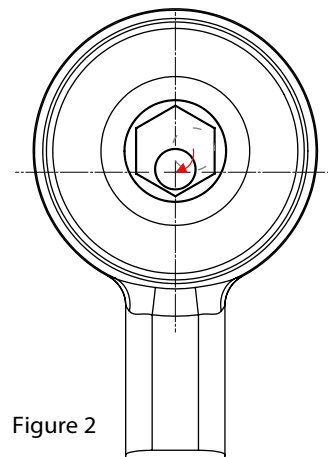

Figure 2
7. For maximum caster adjustment, use a 26 mm spanner to rotate the sleeve until the bore is positioned as shown in **Figure 2**.